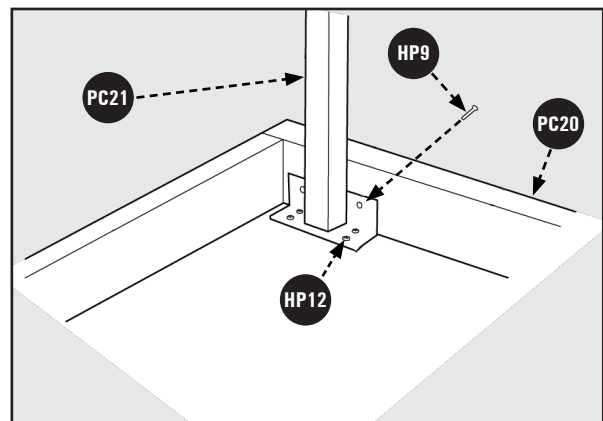

Figure 11
2. Position table legs (PC21) in corner as shown in Figure 11 the vertical wall of the angle plate on the leg should be against the end wood wall of the table.